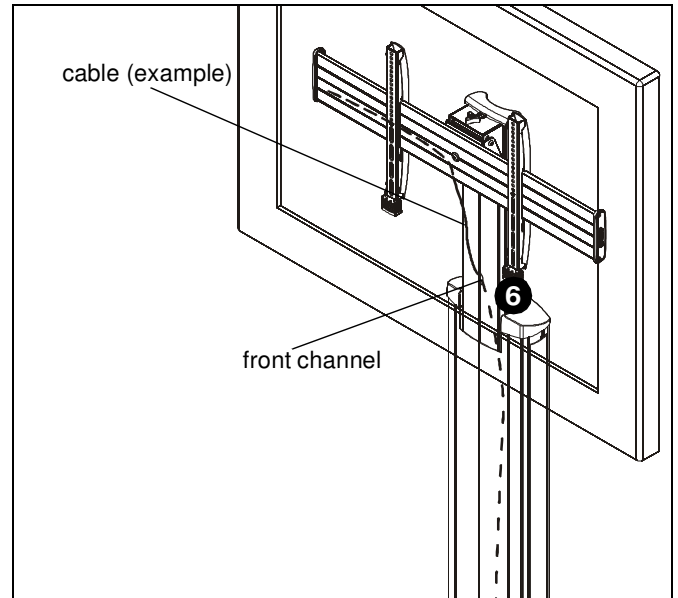

Figure 12
6. Route cables from display through front channel of column assembly. (See Figure 12)